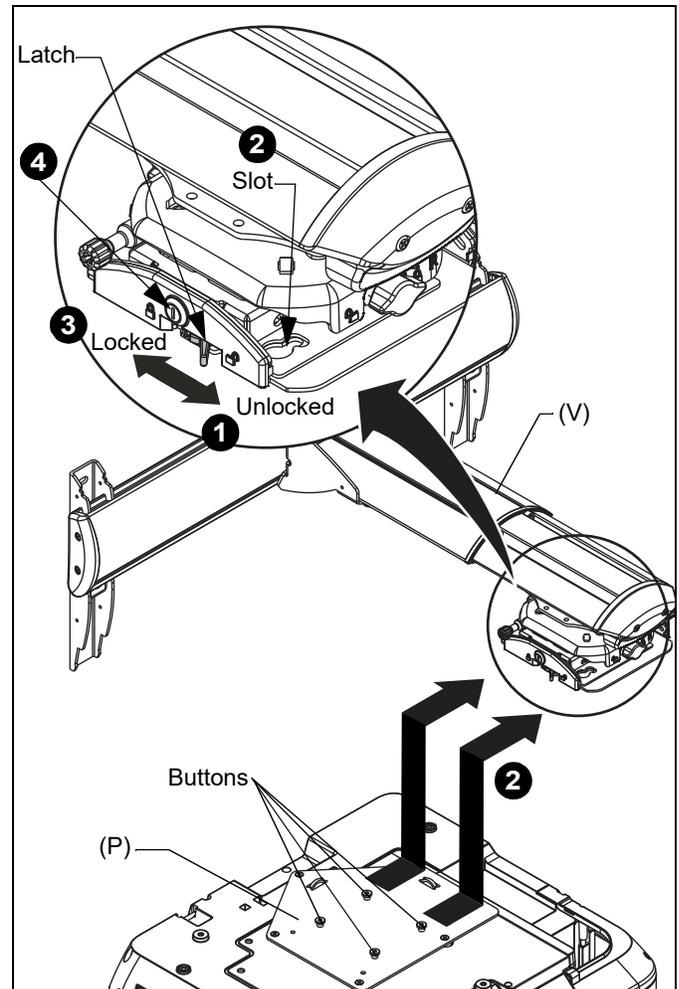

Figure 11
- Make sure latch on projector mount assembly (V) is in **UNLOCKED** position and remove key (taped on side) from projector mount. (See Figure 11)
- Lift projector with attached interface (P) and slide buttons on interface into slots on projector mount assembly (V). (See Figure 11)
- Slide latch to **LOCKED** position to lock projector in place. (See Figure 11)